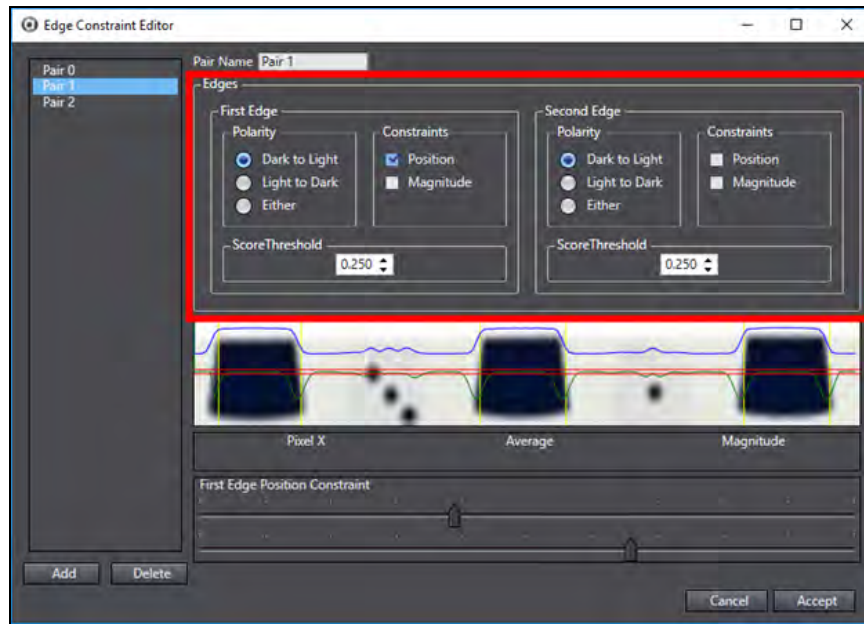

Figure 8-236 Arc Caliper - Edge Constraint Editor - Edges
- **Polarity:** defines the gray level deviation for which the tool searches. This is performed with respect to the clockwise direction of the region of interest. For example, in Figure 8-236 Dark to Light is selected for both edges, and in both cases, the left side of the edge is black.